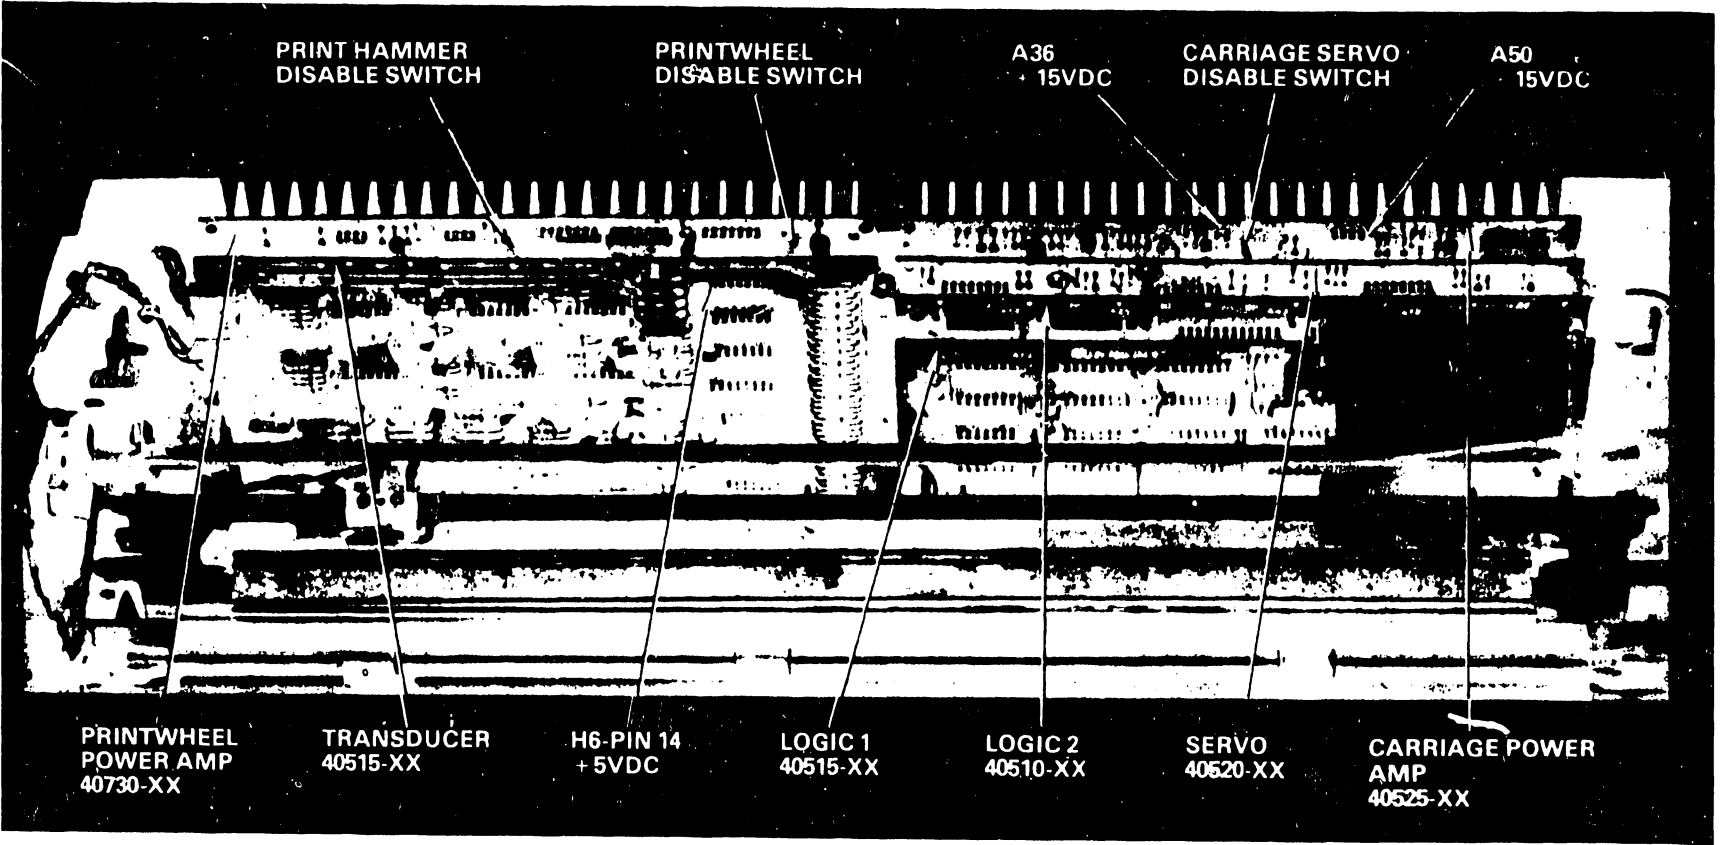

FIGURE 4-1 DIABLO LOGIC BOARDS AND VOLTAGE CHECK POINTS
The 5511 and 5581 are modified DIABLO 1355WP printers with WANG microprocessor logic installed internally to interface with the 928 Word Processing Systems. This logic is mounted on a Wang manufactured base assembly that contains the power supply, the power supply regulator and the Wang electronics motherboard which houses three plug-in PCBs. DIABLO logic boards, six (6) in number, are mounted on the rear of the printer (HY-TYPE II standard equipment) as shown in Figure 4-1.
The power supply furnishes unregulated voltages +15vdc, -15vdc and +5VR to the DIABLO printer boards. The +5VR required for the DIABLO boards is derived on the WANG power regulator board 7249 and should be regulated to within 2% RMS, 3% P/P, at the printer. These voltages are routed to the Diablo boards via the Power Supply Cable Assy B6482-118. A Winchester Connector P1 on the cable plugs into J1 located on the right side of the Diablo Motherboard when viewed from the front. See Figure 4-2. Measurement of these voltages can be made at the test points indicated. See Figure 4-1.